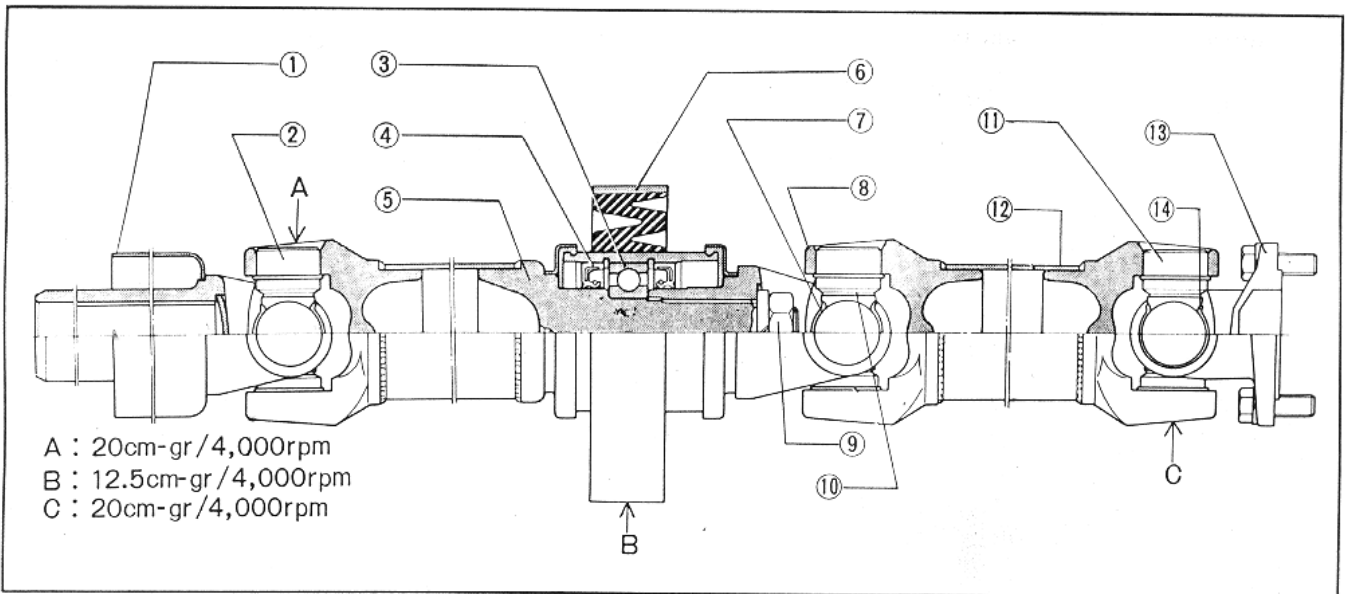

Fig. 8-8 Propeller shaft
2. Check the shaft for dynamic unbalance. If it is not within specifications (See Fig. 8-8), correct or replace the propeller shaft. Excessive unbalance of the shaft causes vibration and noise.